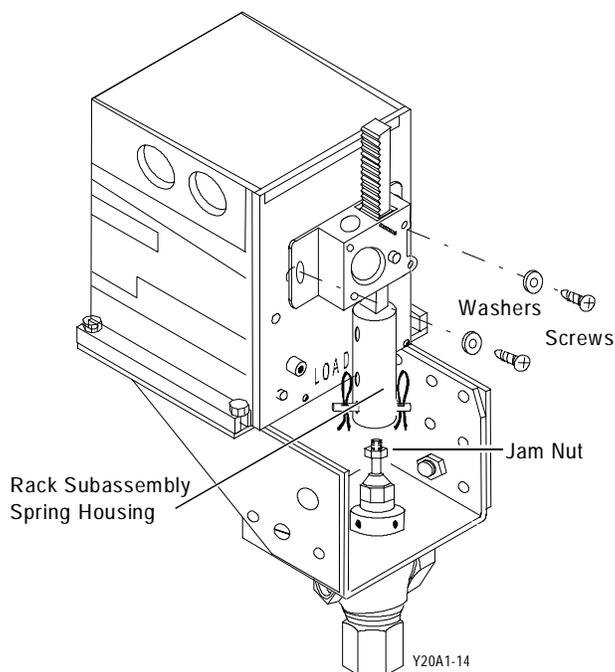

Figure 14: Mounting Gear Housing
8. Tighten the jam nut (shown in Figure 14) against the stem connector.